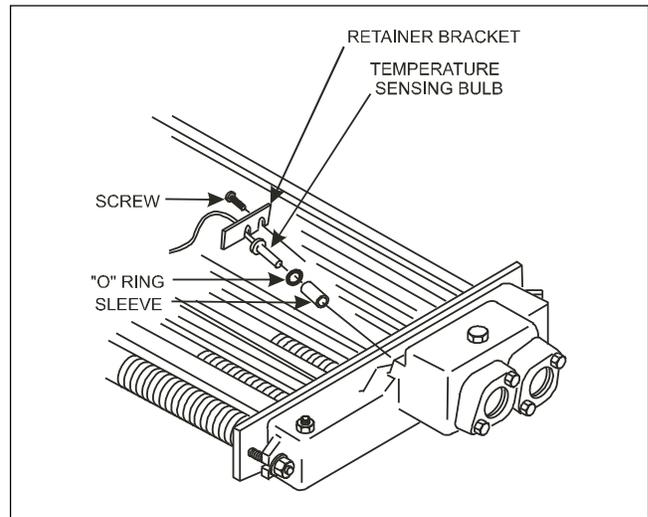

Figure 4. Temperature sensing bulb.
13. Loosen the screw securing the temperature sensing bulb retainer bracket. Slide the retainer bracket off the bulb flange and remove the bulb from the header (see Figure 4). Remove the white pressure retainer clip from the vestibule panel (allow pressure switch to float). Pull pressure switch tube through vestibule cover hole into the front compartment, then pull thermostat bulb assembly through same hole.